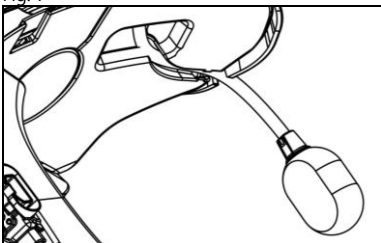

Fig. 8
- Position the microphone in the housing on the right of the helmet, inserting the metal boom in the groove found in the chin guard coupling frame (Fig. 8).